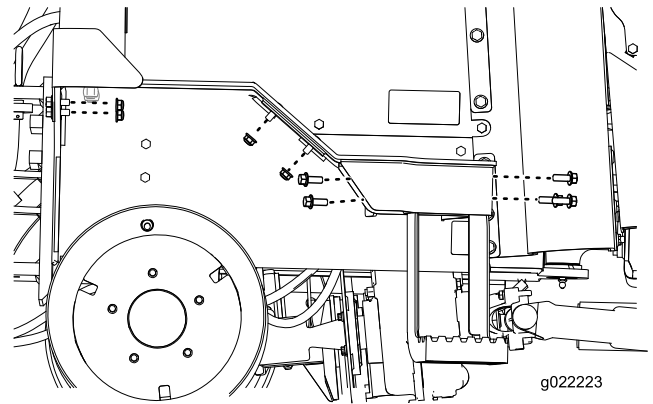

Figure 19
3. Remove the step extension from the machine (Figure 19).